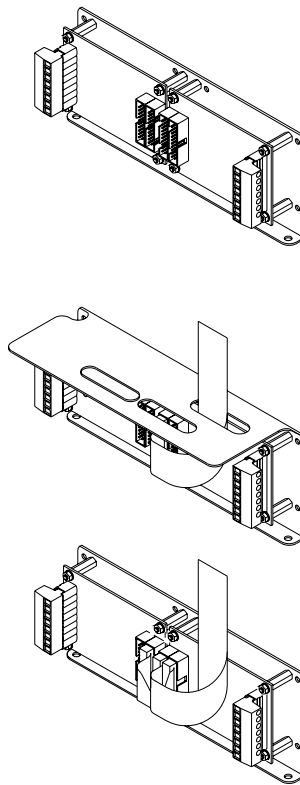

Figure 10-9: 665 Serial I/O Module Installation
1. Install the four aluminum standoffs included in each 60 Series Option Kit onto the studs on the mounting plate. See Figure 10-9 (the top of bracket is removed for clarity).